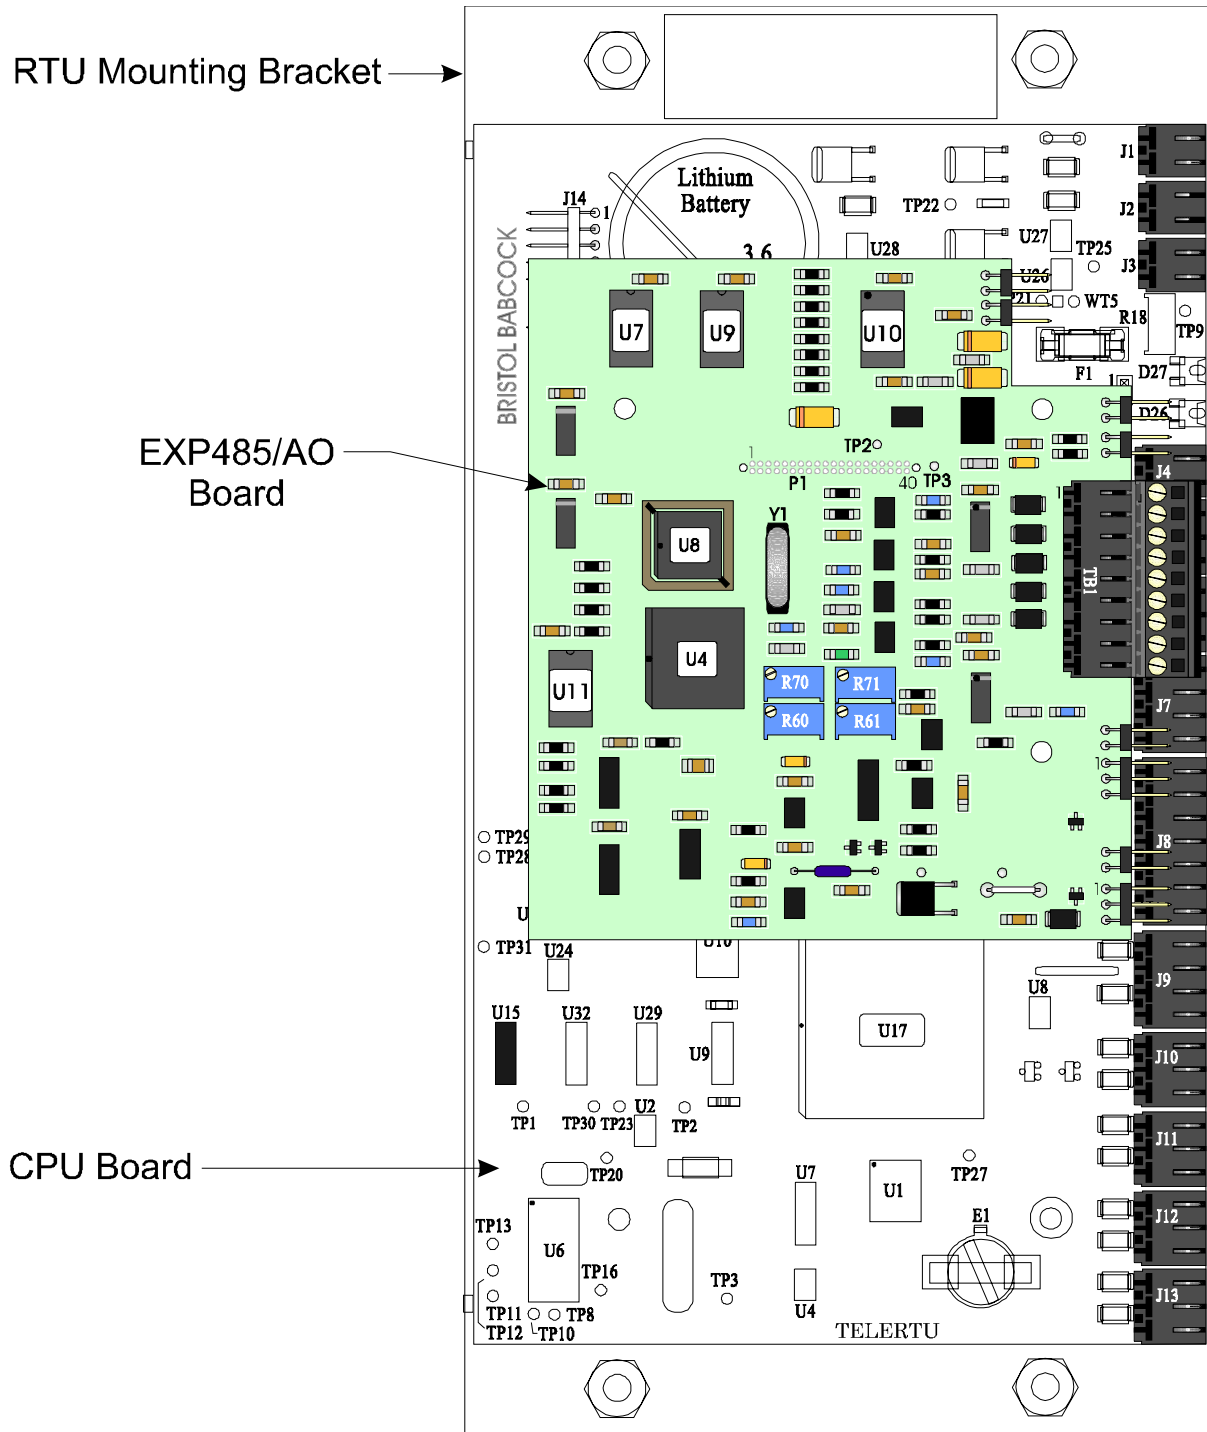

Figure 11 - 3530-35B (with EXP485/AO Installed)
6. Secure the EXP485/AO Board to the CPU Board by installing three (3) #4-40 x 1/4" SEM screws as illustrated in Figure 11.